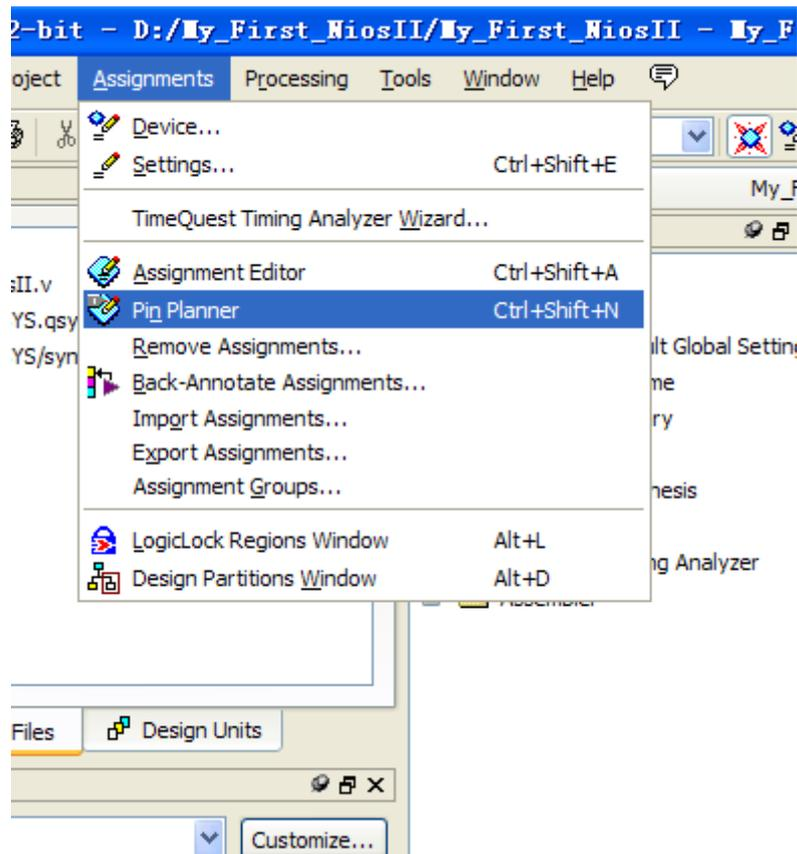

Figure 1-65 Pins menu
39. Choose **Assignments > Pins** to open pin planner as shown in Figure 1-65. Figure 1-66 show blank pins.